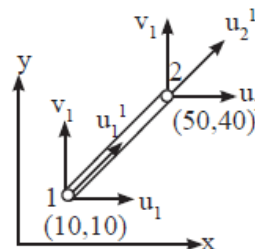

Figure 4
- b For the truss element shown in below Figure 4 (x, y) co-ordinates of the element are indicated near nodes 1, 2. The element displacement dof vector is given by  $[u] = [1.5, 1.0, 2.1, 4.3]^T \times 10^{-2} \text{ mm}$  Take  $E = 300 \times 10^3 \text{ N/mm}^2$